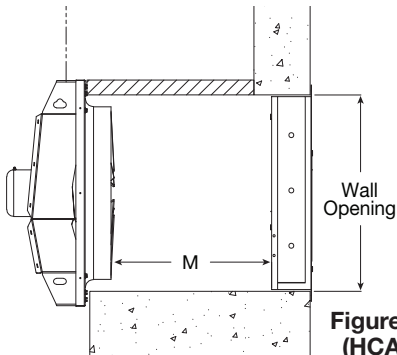

Figure 4 - Direct to Wall (HCAI Seismic Rated) Installation
Figure 4 shows the recommended wall opening and the minimum distance (M) suggested between the fan and damper for HCAI Seismic direct to wall installations.